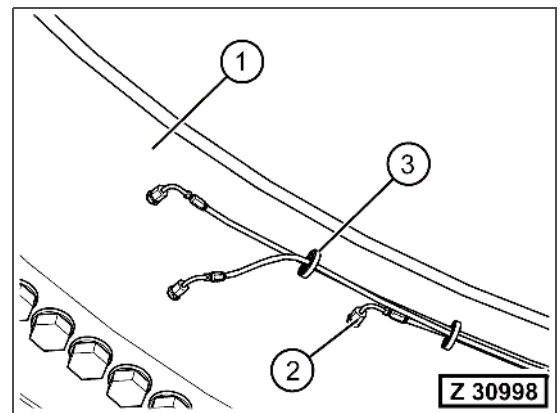

Fig. 3-406
7. Disconnect all slew ring bearing lubrication lines (Fig. 3-406, Pos. 2) from the inner slew ring (Fig. 3-406, Pos. 1).
8. Clear all hose straps (Fig. 3-406, Pos. 3) from the inner slew ring.